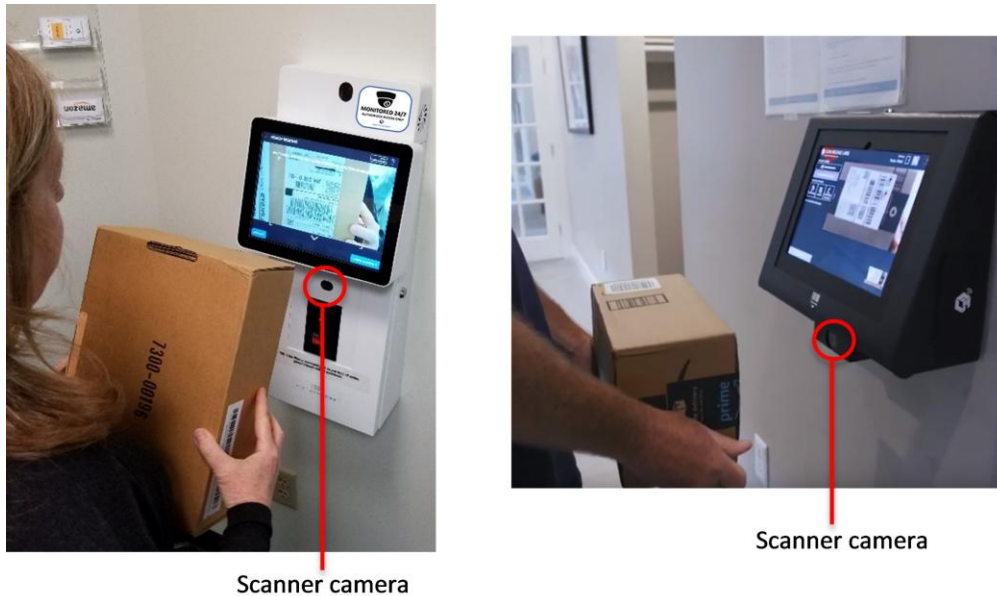

Figure 19: Scanning a package at the kiosk
- b. **Scan** the first package - make sure the entire label is visible and the package is not moving. Hold the package so that the tracking UPC lines are level in front of the scanner camera. See Figure 19.